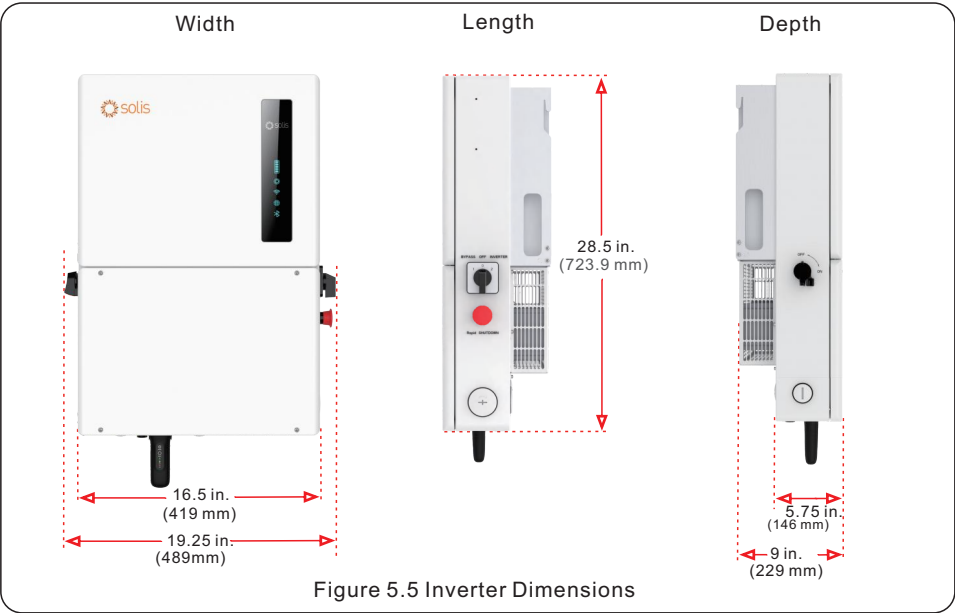

Figure 5.5 Inverter Dimensions
- If multiple inverters are installed on site, a minimum clearance of 12 inches should be kept between each inverter and all other mounted equipment. The bottom of the inverter should be at least 20 inches above of the ground or floor (see Figure 5.5 on page 23).